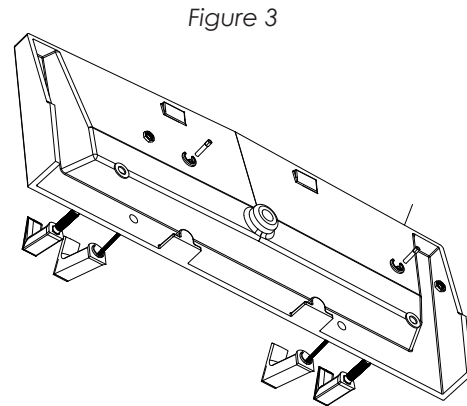

Figure 3
3. Install faucet (Figure 3) and optional soap dispenser onto sink according to manufacturer's instructions.